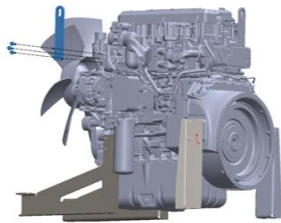

Figure 3
3. Install the ATD mount bracket support (3) on the intake flywheel side using M10X60 (14) bolts as shown in the figure 3.